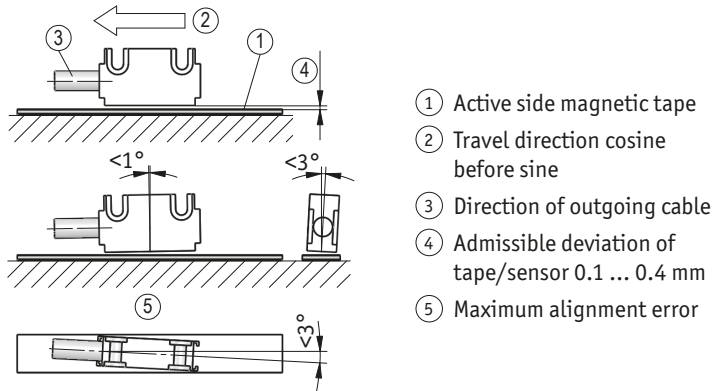

Fig. 6: Definition of the counting direction with magnetic tape and assemblage sensor / magnetic tape, gap measure, tolerances
- ▶ Take care that the magnetic sensor is aligned correctly in order to ensure optimum sensing (see Fig. 6).
- The distance tolerances were not observed over the whole measuring length (see Fig. 6).
- The magnetic sensor has been mounted with the active side turned away from the band (see Fig. 6).
- Magnetic sensor has not been aligned according to Fig. 6.